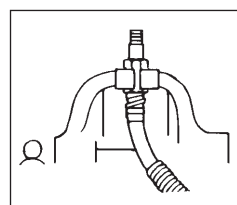

Figure 9
- Clamp the hexagon nut of the hose fitting in a vise as illustrated in Figure 9.